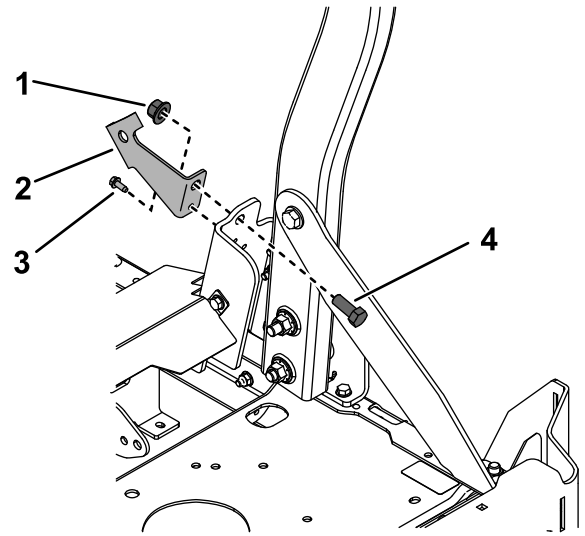

Figure 4
1. Install the left and right seat-belt brackets using 1 bolt (1/2 x 1-1/4 inches), 1 locknut (1/2 inch), and 1 self-tapping screw (1/4 x 5/8 inch) for each bracket (Figure 4). Torque the bolts to 41 N·m (30 ft-lb).